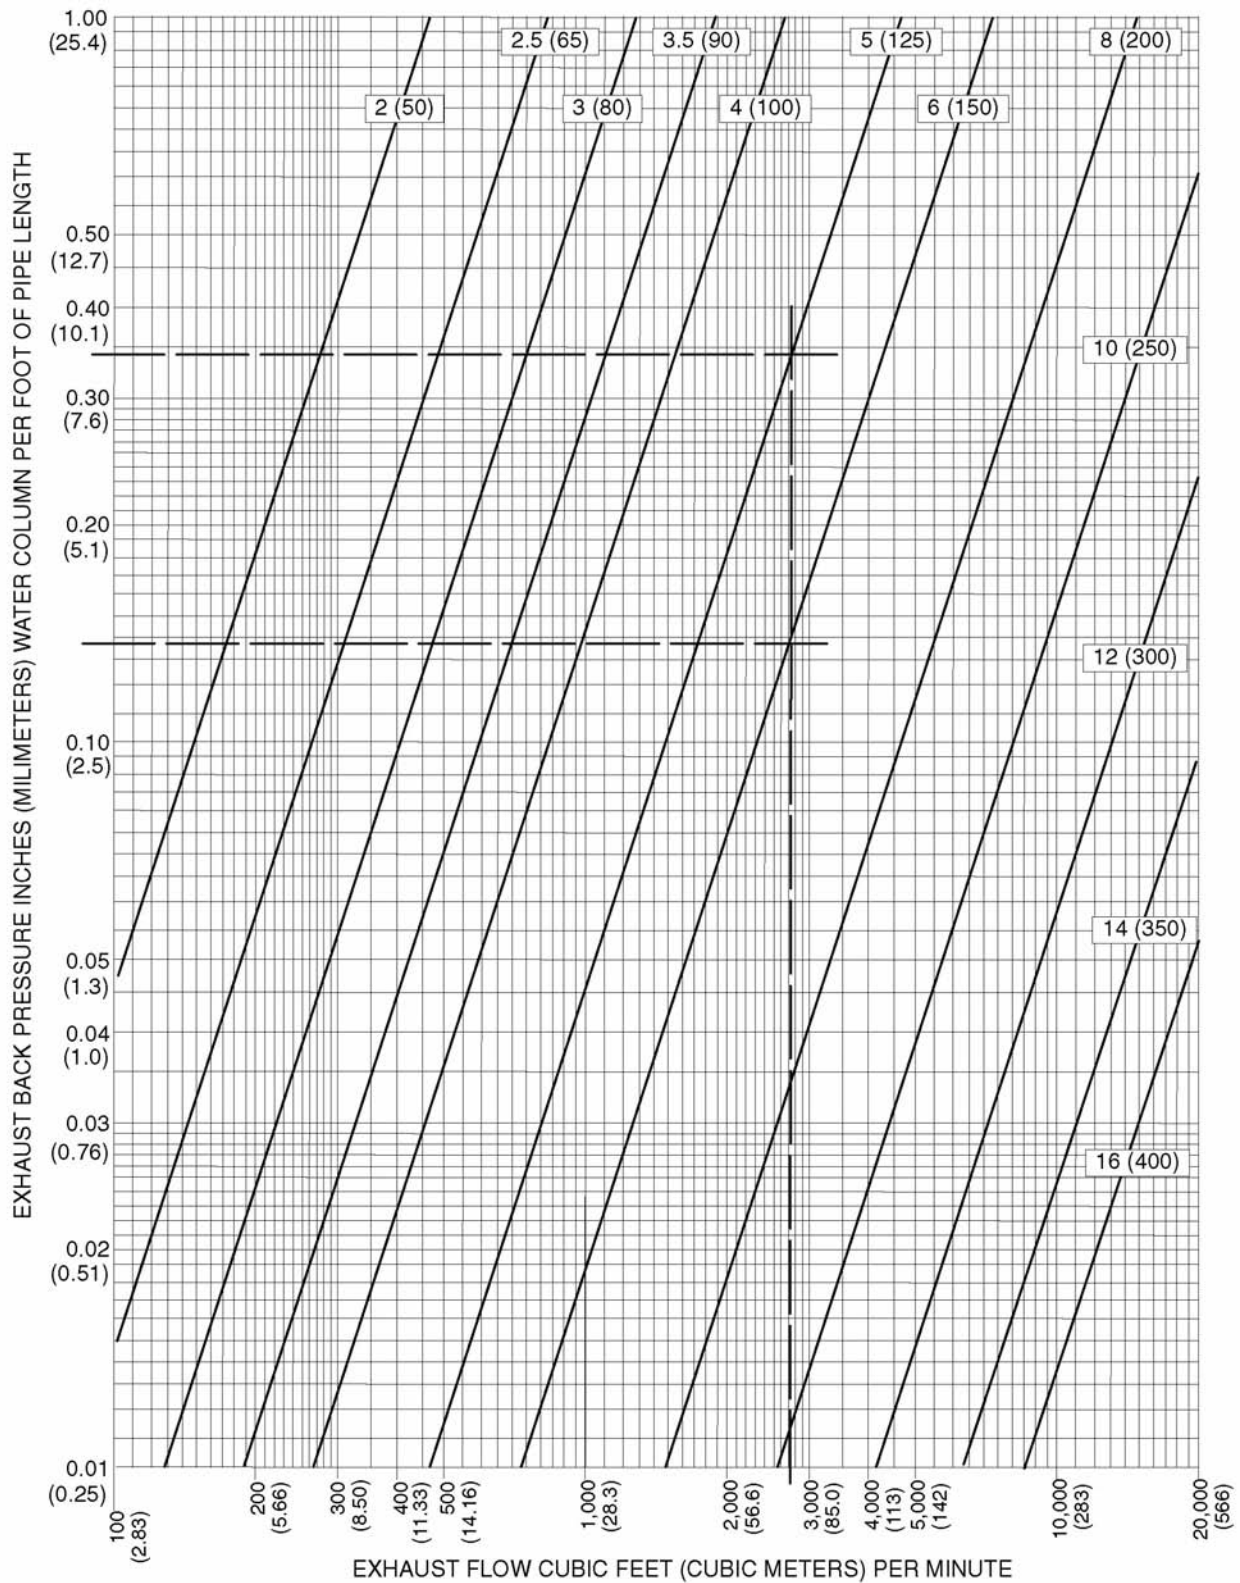

FIGURE 61. EXHAUST BACK PRESSURE IN NOMINAL INCH (MM) PIPE DIAMETERS
3. Find the back pressure at the given exhaust flow per unit length of pipe for each nominal pipe diameter used in the system. In this example, 5 inch and 6 inch nominal pipe is used. Following the dashed lines in Figure 61 on page 133, 5 inch pipe causes a back pressure of approximately **0.34** inches WC per foot and 6 inch pipe approximately **0.138** inches WC per foot.